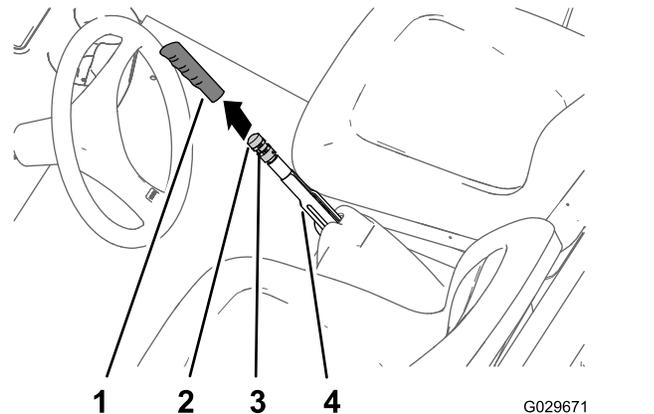

Figure 65
1. Remove the handgrip from the parking-brake lever (Figure 65).
2. Loosen the set screw securing the brake-adjustment knob to the parking-brake lever (Figure 65).
3. Rotate the brake-adjustment knob until you reach a force of 133 to 156 N (30 to 35 lbf) to engage the parking-brake lever (Figure 65).
4. Tighten the set screw and install the hand grip (Figure 65).
2. Loosen the set screw (Figure 65) securing the brake-adjustment knob to the parking-brake lever, disengage the parking brake, and loosen the brake-adjustment knob.
5. Rotate the brake-adjustment knob (Figure 65) until a force of 133 to 156 N (30 to 35 lbf) is required to engage the parking-brake lever.
- C. Rotate the brake-adjustment knob (Figure 65) until a force of 133 to 156 N (30 to 35 lbf) is required to engage the parking-brake lever.
- Tighten the set screw and install the handgrip (Figure 65).